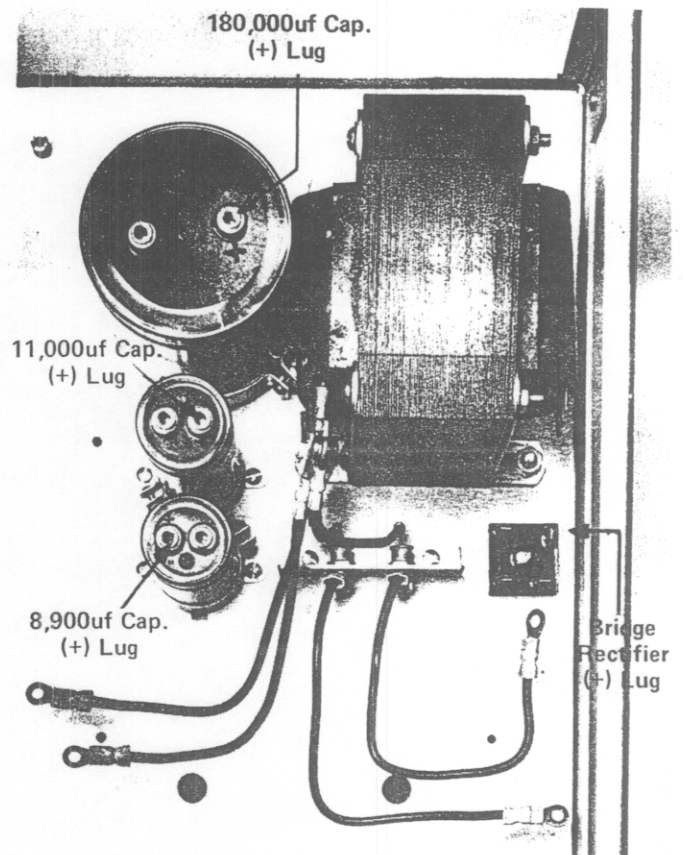

Figure 2P. Top View of Power Supply after Assembly Step P25.
- P14. Mount the 180,000uf electrolytic capacitor as follows: First attach a 6-32x1/2" tightening machine screw to the 3" diameter capacitor clamp with a lock washer and nut. Next, mount the clamp to the chassis frame in the location and orientation as shown in figure 2P, using three 6-32x3/8" machine screws and lock washers. Do not tighten the machine screws yet. Next, insert the capacitor into the clamp, oriented as shown in figure 2P, forcing the bottom of the capacitor to be flush with the frame. Finally, tighten the clamp tightening machine screw and the three clamp mounting machine screws.
- P15. Mount the stud diode mounting bracket in the location and orientation shown in figure 2P, using two 6-32x3/8" machine screws and lock washers.
- P18. Mount the four-prong bridge rectifier to the chassis frame in the location and orientation shown in figure 2P using a 6-32x5/8" machine screw and lock washer. The + lug should be nearest the right rear of the chassis.
- P19. Mount the transformer in the location and orientation shown in figure 2P. Be sure that the ring lugs are in the front left position. You may wish to use masking tape to hold the screws in position while mounting the transformer. The following order should result from bottom to top: four 1/4" machine screw heads, chassis frame, transformer brackets, lock washers and nuts. Before tightening the nuts firmly, slide the transformer as far forward as the oval mounting holes will permit, and center the transformer between the 180,000uf capacitor on the left and the wall of the chassis frame on the right.
- P24. Mount the 11,000uf electrolytic capacitor in the location and orientation shown in figure 2P. Follow the mounting procedure as for the 180,000uf capacitor (see step P14), using a 1 3/8" diameter capacitor clamp.
- P25. Mount the 8,900uf capacitor in the location and orientation shown in figure 2P. Follow the mounting procedure as for the 180,000uf capacitor, using a 1 3/8" diameter capacitor clamp. Compare your assembly to this point with figure 2P for correctness.